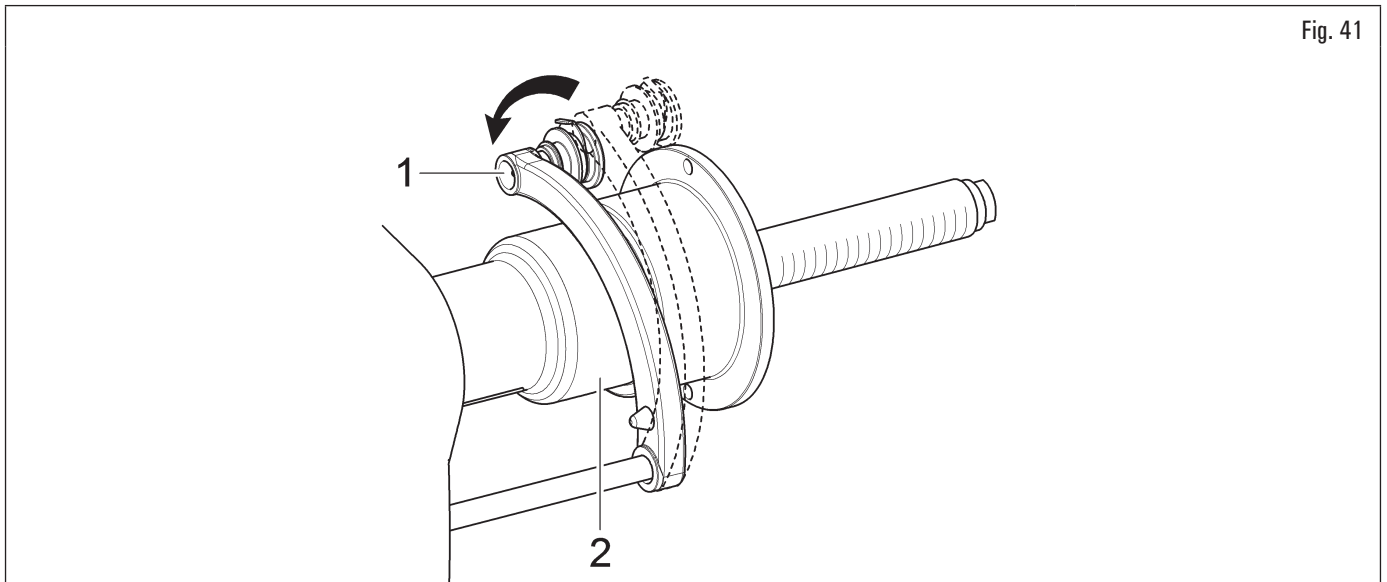

Fig. 41
Repeatedly bringing the gauge arm (Fig. 41 ref. 1) in contact with the spindle (Fig. 41 ref. 2), the program will cyclically go from "STATIC" to "STATIC 1" TO "STATIC 2" then returning to the beginning.
1. bring into contact the weights fitting pliers with the inner part of the rim (2 contact points) (see Fig. 41) to select "ALU-S" program;
Repeatedly bringing the gauge arm (Fig. 41 ref. 1) in contact with the spindle (Fig. 41 ref. 2), the program will cyclically go from "ALU-S" to "ALU-S1" to "ALU-S2", then returning to the beginning.